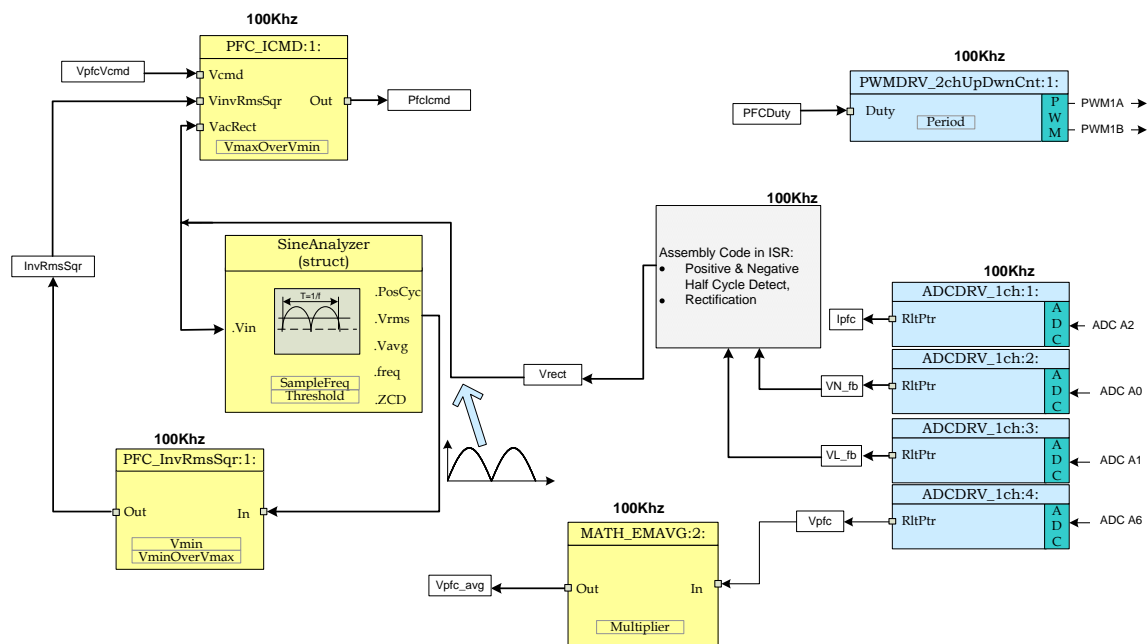

Figure 3.1.1. Build 1 software blocks
The PWM and ADC driver macro instantiations are executed inside the `_DPL_ISR`. Fig 3.1.1 shows the software blocks used in this build. The two PWM signals for the two PFC switches are obtained from ePWM module 1. ePWM1A drives one of the PFC switches while ePWM1B drives the other.
The signals that are sensed and input to the MCU include, (1) line and neutral voltages (`VL_fb`, `VN_fb`), (2) PFC input current (`Ipfc`) and, (3) DC bus voltage (V_{pfc}). These quantities are read using the ADC driver module and are indicated in Fig 3.1.1. The ADC driver module converts the 12-bit ADC result to a 32bit Q24 value. A few lines of code in the ISR implements the detection of input AC line half cycle (positive & negative half